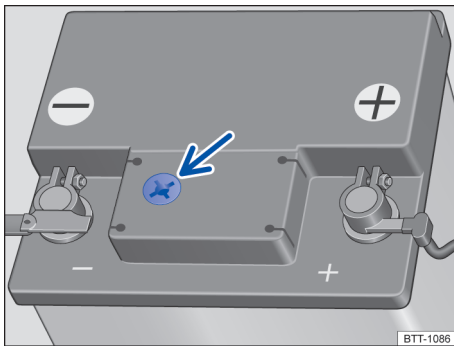

Fig. 143 On the top of the 12-volt vehicle battery: battery window (illustration)
- Ensure that enough light is available for you to clearly see the colour indicator in the round window on the top of the 12-volt vehicle battery (Arrow) → Fig. 143 Do not use naked flames or objects flashing sparks as lighting.